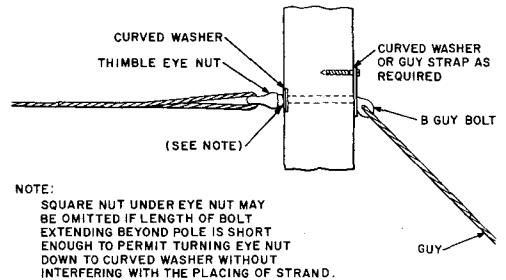

Fig. 2—B Guy Bolt and Associated Hardware Installed Where Lead/Height Ratio of Guy is 1-1/4 or Less
2.09 When guy bolts and thimble eye nuts are used and the lead/height ratio of the guy is 1-1/4 or less, install a B guy bolt as shown in Fig. 2 and select the associated hardware as listed in Table B.